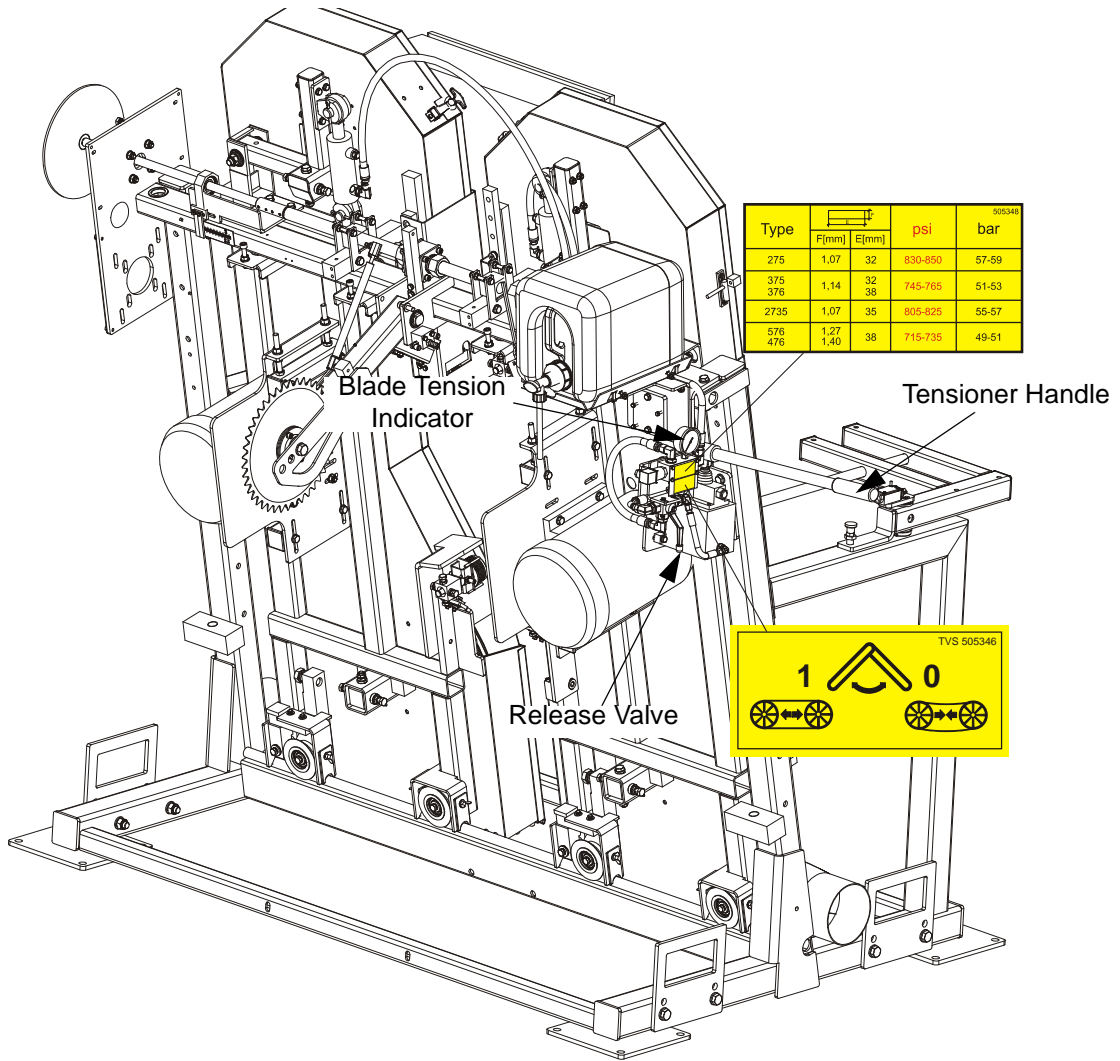

FIG. 2-3
**See Figure 2-3.** Place the provided handle in the blade tensioner socket and secure with a screw. Set the tensioner valve to position "1". Move the tensioner handle up and down to tension the blade. Depends on the installed blade type, tension the blade to the value shown on the decal located below blade tension valve. Values "F" and "E" are: blade thickness and blade width. Check the blade tension occasionally when adjusting the cant control or while cutting and adjust if necessary. As the blade and belts heat up and stretch, the blade tension will change. Also, ambient temperature
5. Use the cant adjustment bolt, shown in **Figure 2-3**, to adjust where the blade travels on the blade wheels.